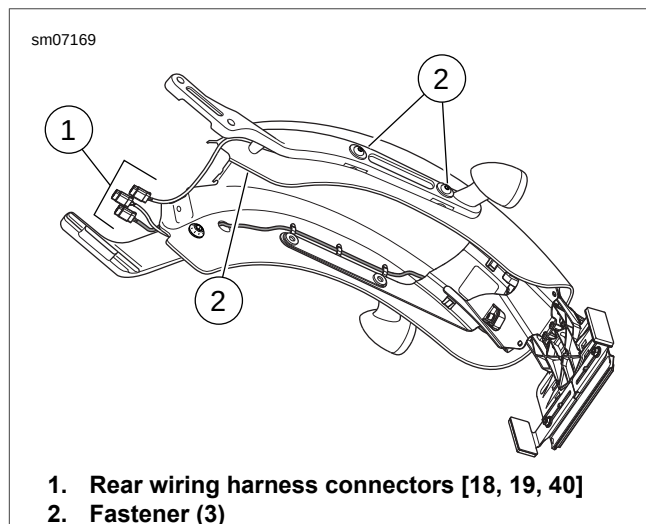
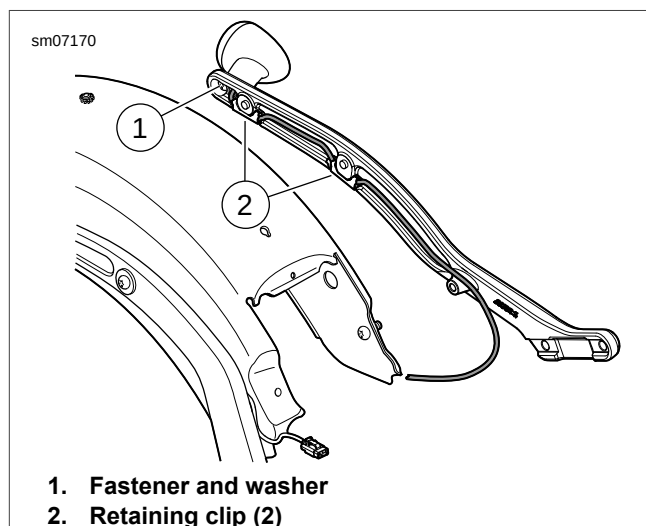
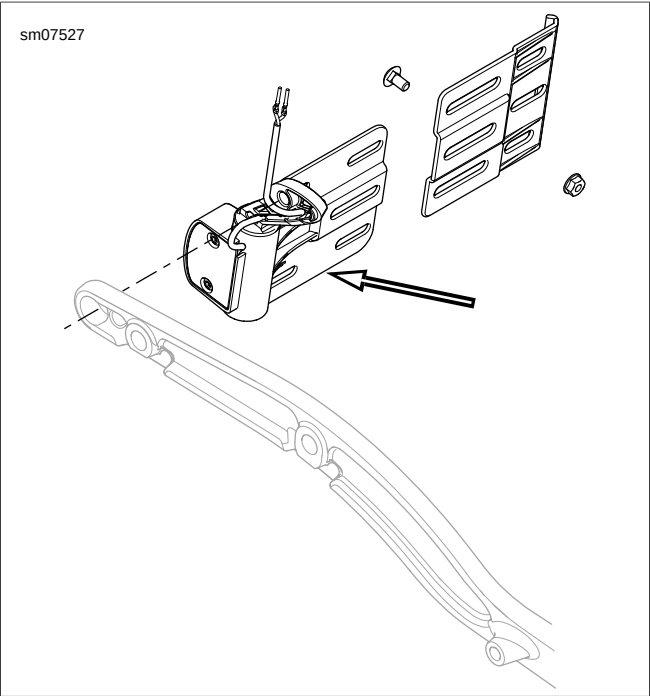

Figure 7-58. Turn Signal Housing: FLS, FXS
Figure 7-59. Turn Signal Wire Routing: FLS, FXS
Figure 7-60. License Plate Bracket (Domestic and California Models)
2. See Figure 7-58. Remove fasteners (2) securing fender support to fender.
3. Disconnect pins from 4-Pin connector [18, 19] (1) as needed. Refer to Table 7-8 or Table 7-10. See A.16 DEUTSCH DTM SEALED SOLID BARREL MINI TERMINAL REPAIR.
4. See Figure 7-59. Carefully remove wire from retainer clips (2).
5. Remove fastener and washer (1) securing lamp assembly to fender support.
6. See Figure 7-60. If equipped with side mount license plate bracket, separate turn signal from license plate bracket.
8. See Figure 7-59. Install fastener and washer (1) securing lamp assembly to fender support. Tighten fastener to 12-16 ft-lbs (16.3-21.7 Nm).
9. Route wires of **new** lamp along fender support. Make sure **new** wires are properly positioned in the retaining clips (2).
11. See Figure 7-58. Clean threadlocking compound from fasteners (2) and threaded holes prior to assembly.
12. Apply LOCTITE 243 MEDIUM STRENGTH THREAD-LOCKER AND SEALANT (blue) to fasteners (2) and install fender support to fender using fasteners (2). Tighten fasteners to 21-27 ft-lbs (28.5-36.6 Nm).